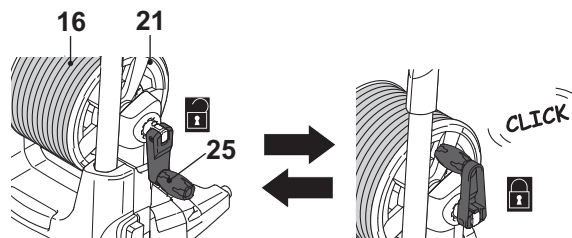

Fig. 17
1. Unfold the winding handle (25) to unlock the hose reel (21) (Fig. 17).
2. Pull out the pressure hose (16) from the hose reel (21) for operation.
3. Turn the winding handle (25) clockwise to wind up the pressure hose (16) for storage. Release the pressure in the hose before winding up the hose: turn product off using the control dial and press gun trigger until the pressure is released.